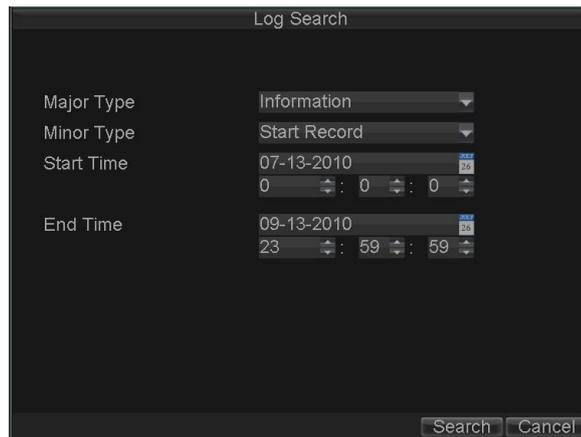

Figure 6. Log Search Menu
1. Click Menu > Maintenance > Log Search to enter the Log Search dialogue box, shown in Figure 6.